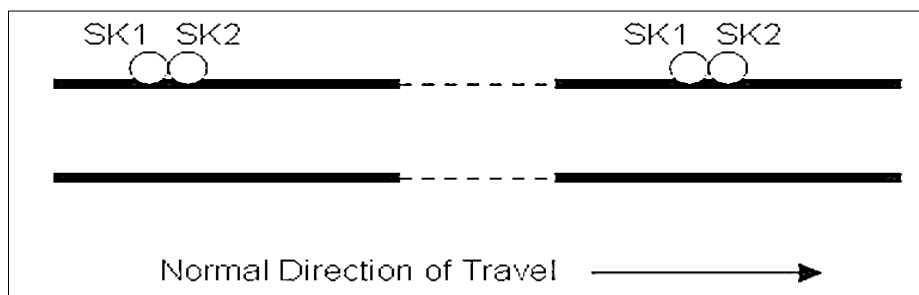

Figure 1 – Typical Layout of Rail Contacts (Type SK30H or SK30K)
- Normally increasing Mileage (ARD Axle Counter Reference Direction), see Figure 1.